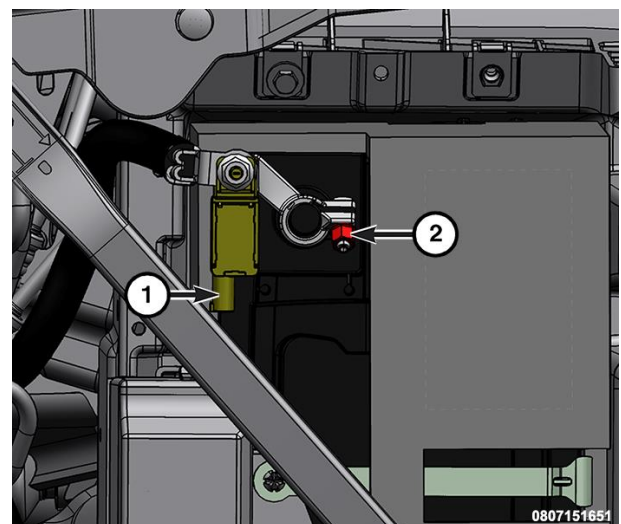

Figure 18 – IBS Connector
2. Disconnect the Intelligent Battery Sensor (IBS) wire harness connector (1) (Figure 18).